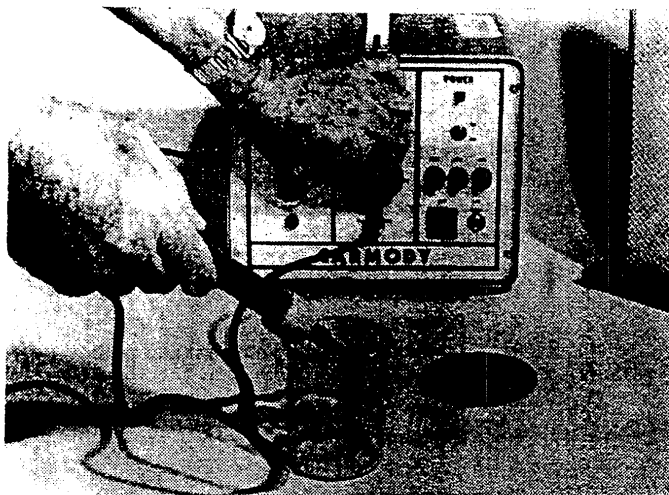

Figure 8. Low-Voltage, Non-Sparking Electricity Can Develop Sufficient Heat to Ignite Gasoline Vapors.
5. Hold the heating element over the mouth of the beaker and increase power until the heating element becomes hot enough to ignite the gasoline vapors (Figure 8).